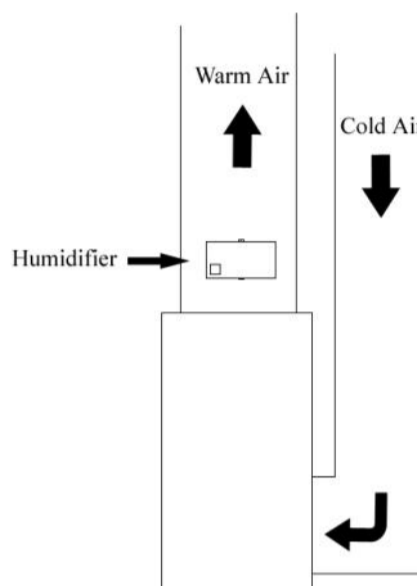

Figure 1
3.2 Mount the humidifier on the warm air plenum only, with the nozzle pointing up in the direction of airflow (see Figure 1, left). On narrow plenums, mount the humidifier on the narrow side.